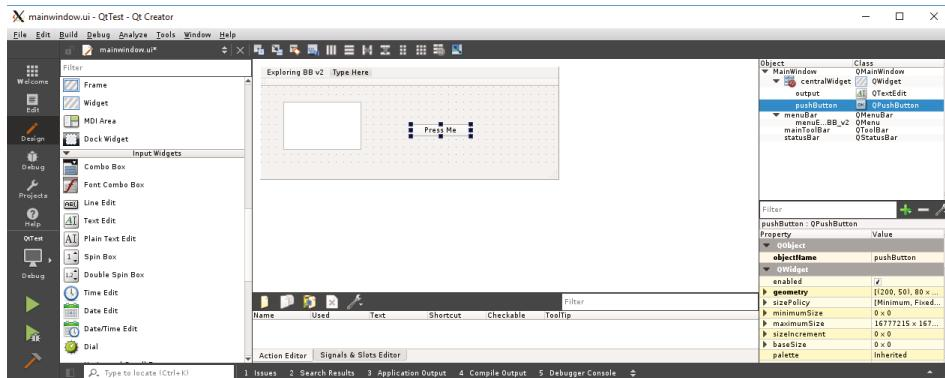

Figure 13-9: Qt Creator IDE visual design editor running directly on the Beagle board (via VNC)
The Qt framework also has associated development tools. As well as the `qmake` tool, there is a full-featured IDE called *Qt Creator*, which is similar in nature to Eclipse, except that it is specifically tailored for Qt development. The IDE, which is illustrated in Figure 13-9, is available for Linux, Windows, and macOS, and its *Qt Designer* tool can even execute on the Beagle board directly. *Qt Creator* can be used to build native applications, or it can be used to cross-compile applications for the board by installing a cross-platform toolchain (similar to Eclipse).
To install and execute Qt Creator on the Beagle board (e.g., via VNC), use the following steps, whereupon the IDE appears as in Figure 13-9. Qt Creator needs approximately 400MB of installation space.
One of the key features that Qt Creator provides is its *visual design editor*, which enables you to interactively drag and drop widgets onto window designs, called *forms*. The interface enables the properties of the widgets to be configured easily, and it provides a straightforward way of enabling signals and associating slots against the UI components. For example, to write code that executes when the Press Me button is clicked (refer to Figure 13-9), you can simply right-click the button and choose “Go to slot,” which provides a dialog with a list of available signals (such as `clicked()`, `pressed()`, and `released()`).³ Once a signal is chosen, the IDE will automatically enable the signal, provide a slot code template, and associate the signal with the slot. The form UI’s properties are stored in an XML file and associated with the project (e.g., `mainwindow.ui`).
- Select the Desktop kit and choose the default class information. This results in a new project being created within Qt Creator, which appears as in Figure 13-9 when you double-click the `mainwindow.ui` form entry.
- In this window view, add a Push Button component and a Text Edit (`QTextEdit`) component, as illustrated in Figure 13-9.